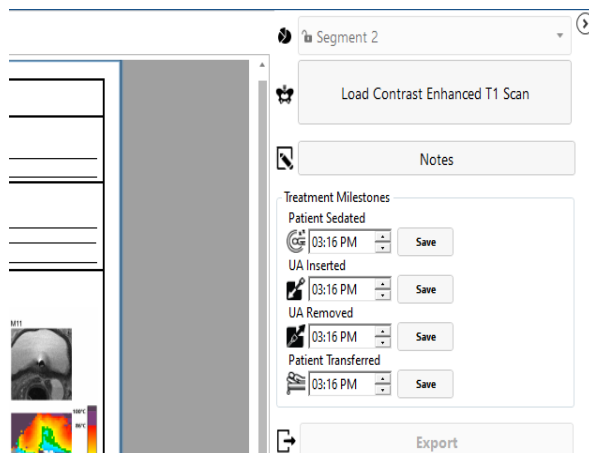

Figure 61: Treatment Milestones panel in Reports workspace
**MRI Technologist:** Use the Treatment Milestones panel in the *Reports* workspace (*Figure 61*) to record:
- The time when the Urologist removed the ultrasound applicator (UA), and